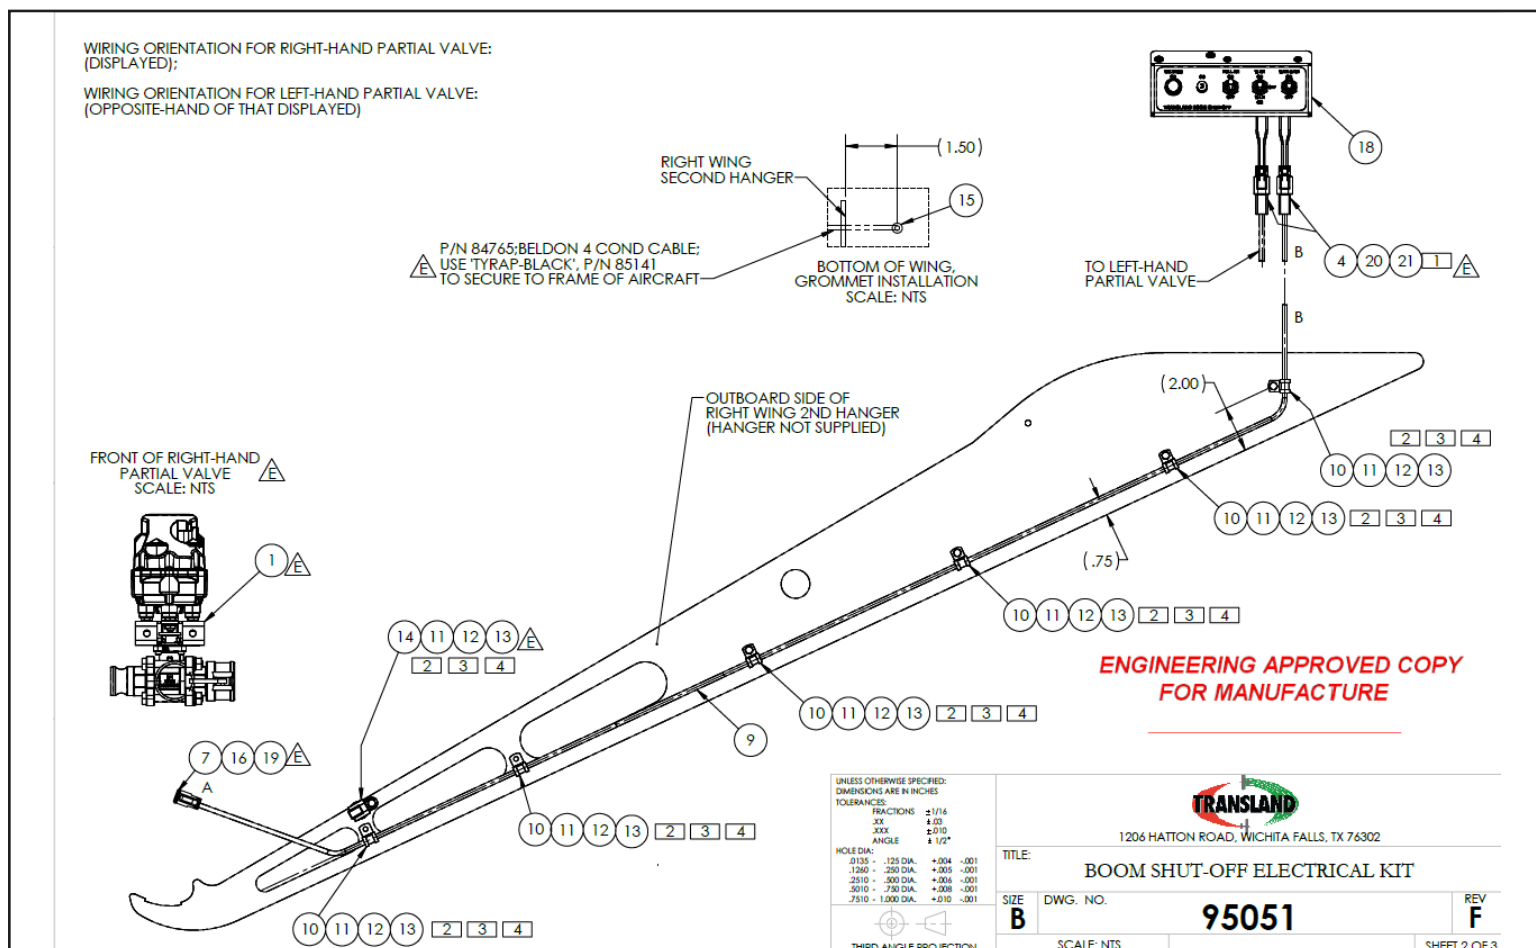

Figure 1-2: Wiring on Wing Illustration for Transland 50% / 60% Boom Shut-Off
11. Drill a 7/16" hole in the bottom of both wings at predetermined locations, according to Figure 1-2.
13. Run wiring (item 4) to the partial left and right boom shut-off valves from the installed control panel.
14. In the aircraft's interior, secure wiring to the aircraft frame using item 12.
15. Along the aircraft's exterior, secure wiring with items 5, 6, 7, and 8 onto the boom hangers, referencing Figure 1-2.